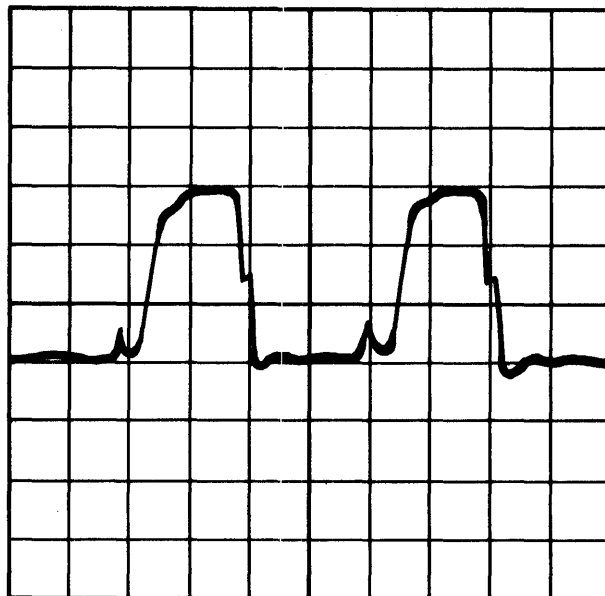

Figure 5-39. Write Current Waveform – Innermost Track
- L. Access to the innermost track and verify that the peak-to-peak waveform is between 29 and 31 milliamperes. If necessary, adjust the write current potentiometer to bring the waveform within limits. The waveform should appear as shown in Figure 5-39.